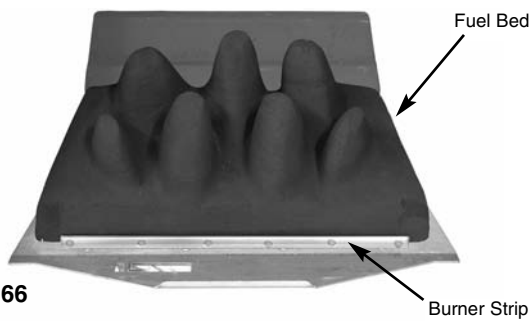

Fig. 66
2. Place the main fuel bed on to the middle section of the metal burner tray. It is important that the front edge of the fuel bed is located behind the burner strip (Fig. 66).